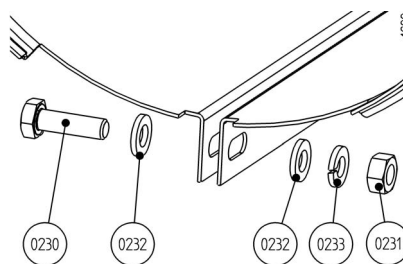

figure 19: *Fitting bolt and nut with washers and spring washer.*
- 1 Loosen bolts (0230) and nuts (0231) and remove these including washers (0232) and (0233). See figure 19.
- 10 Close the jacket and fit a bolt (0230) and nut (0231) with washers (0232) and (0233) into the hole at motor side. See figure 19 for the proper mounting sequence.
- 12 Close the jacket and fit a bolt (0230) and nut (0231) with washers (0232) and (0233) into the hole at pump side. See figure 19 for the proper mounting sequence.